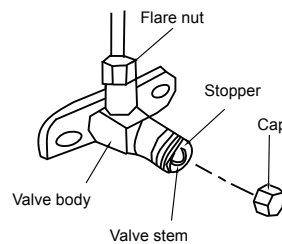

Fig.7-5
- All the stop valves should be opened before testing. Each air conditioner has two stop valves of different sizes on the side of the outdoor unit, which operate as the Lo-stop value. (Refer to Fig.7-5)